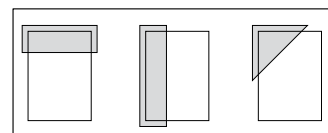

Fig.3
**5. BUITENOMGEVING**  Schaduwen (zie Fig.3 & 4)